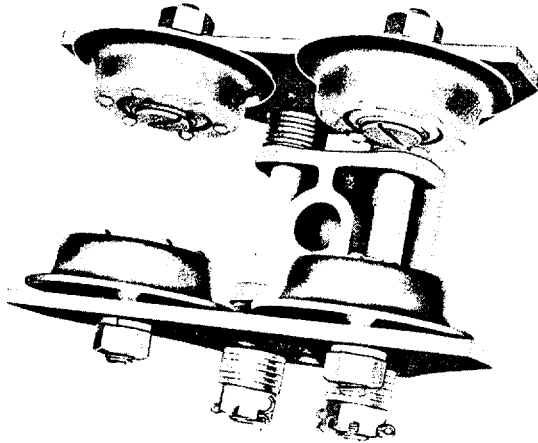

FIGURE 6. LOW HEADROOM LODESTAR TROLLEY.
1. Arrange the side frames, load bracket, spacer washers and nuts on the suspension bolts according to Figure 6 and Chart 1. (Warning, special trolleys shown in chart require special suspension bolts). Do not assemble cotter pins to the bolts.